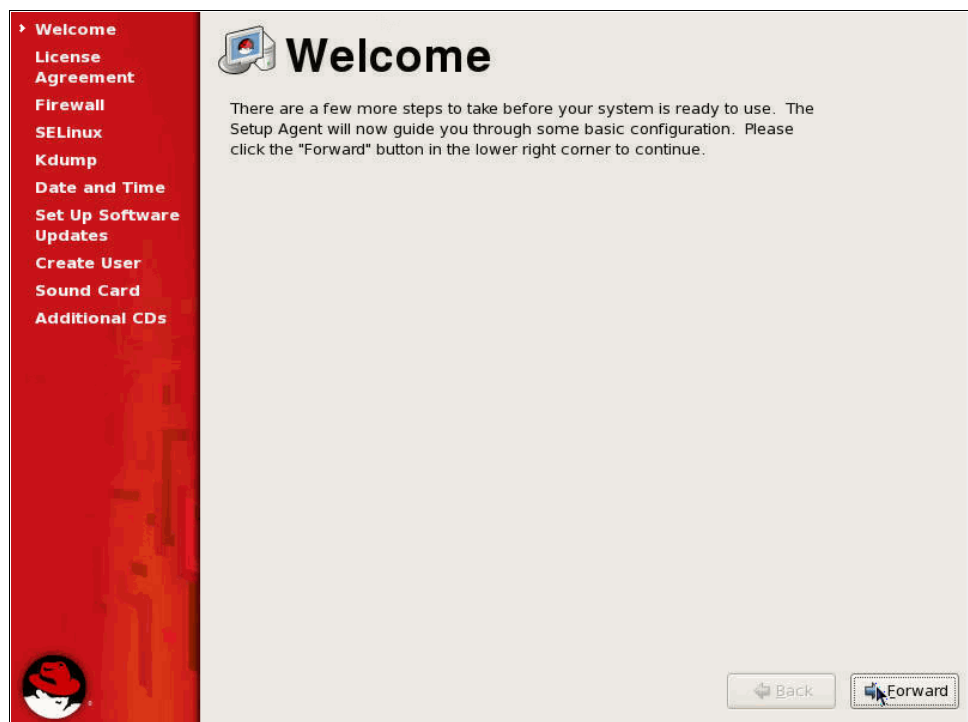

Figure 3-73 Configuring the last basic steps
20. After the server reboots, you can proceed with the rest of the configuration starting with the welcome panel as shown in Figure 3-73. After completing the steps here, we proceed with the multipath configuration.